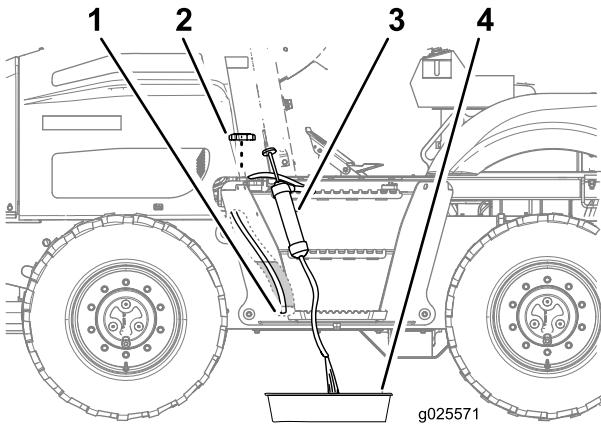

Figure 77
1. Remove the fuel cap from the fuel tank (Figure 77).
- 2. Route the intake hose of the siphoning equipment through the filler neck of the fuel tank and to the bottom of the tank (Figure 77).
- 3. Direct the discharge hose of the siphoning equipment into a drain pan (Figure 77).
- 6. Install the fuel cap onto the filler neck of the fuel tank (Figure 77).